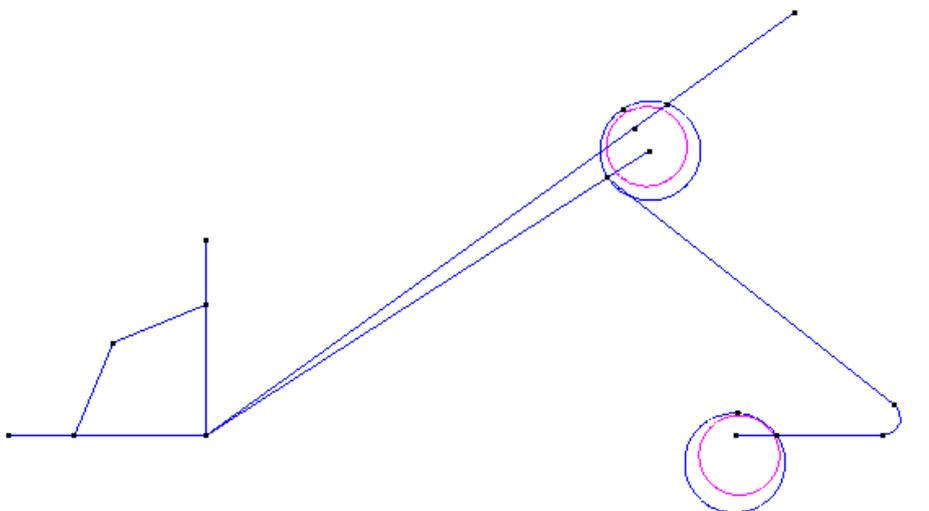

Figure 39. Contens of optimizacion.gid
- 6 . Select the line segment from the upper part of a tooth (Figure 39) and press **ESC**.